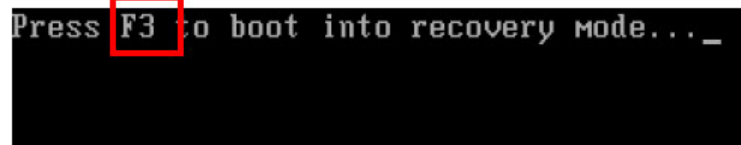

Figure B-10: Press F3 to Boot into Recovery Mode
**Step 1:** Turn on the system. When the following screen displays (**Figure B-10**), press the <**F3**> key to access the recovery tool. The message will display for 10 seconds, please press F3 before the system boots into the operating system.